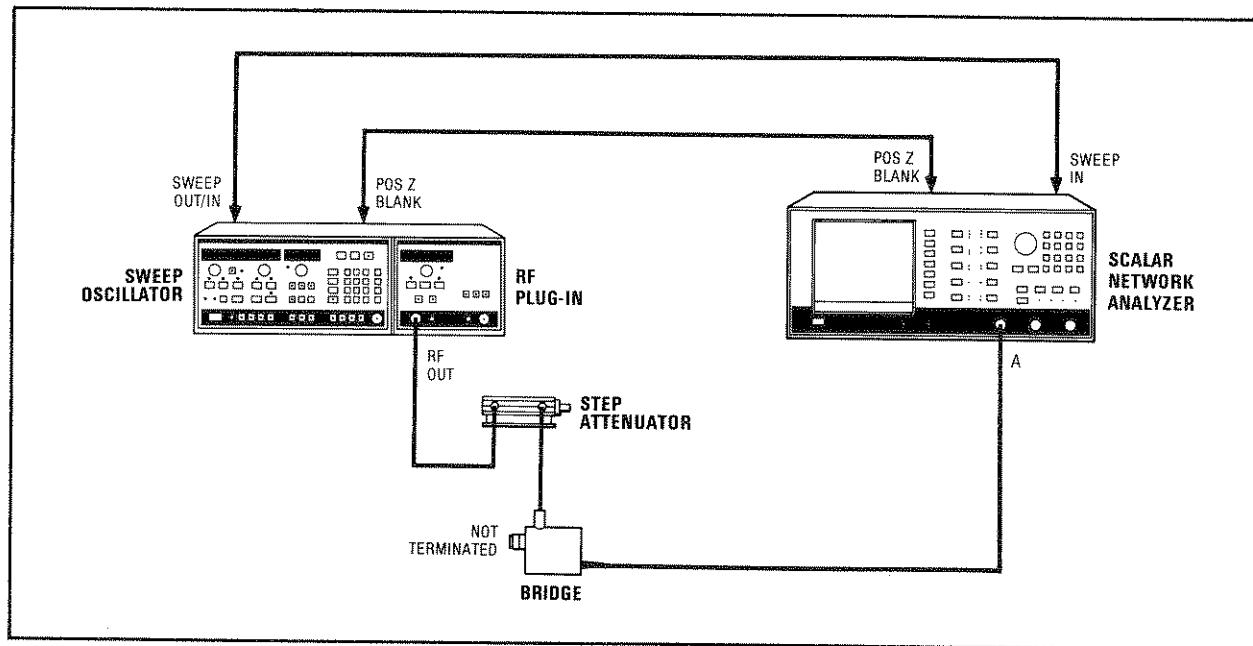

Figure 8-7. Preamplifier Assembly Adjustment Setup
2. Connect the equipment as shown in Figure 8-7. If the Directional Bridge is an 85020B, connect the Model 11852A 50-ohm to 75-ohm minimum loss pad between the step attenuator and the input port of the Directional Bridge. Allow the equipment to warm up for 30 minutes.
6. Set the attenuator to 20 dB. On the 85020A/B, adjust A2R2 (Z) to position the trace on the graticule line 20 dB below the reference.